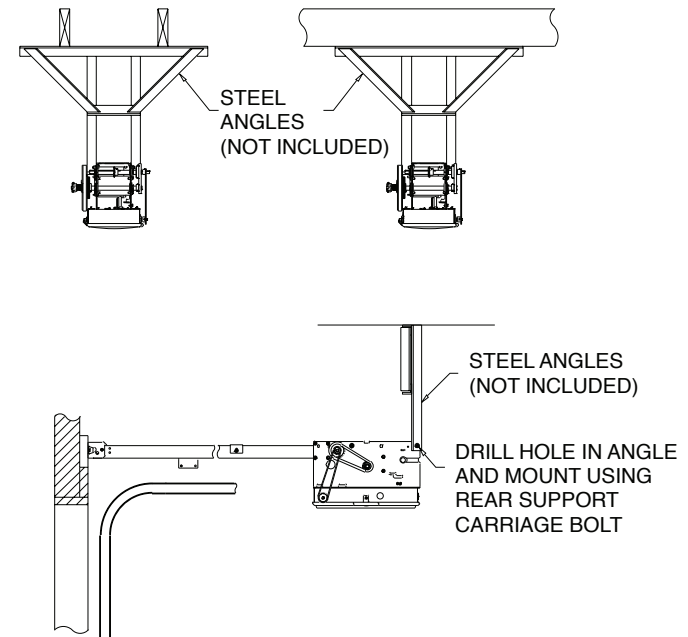

Figure 10
- 6) Secure the operator in this position by installing steel angles (not furnished) between the ceiling superstructure and the operator power unit. **Fig. 10.**